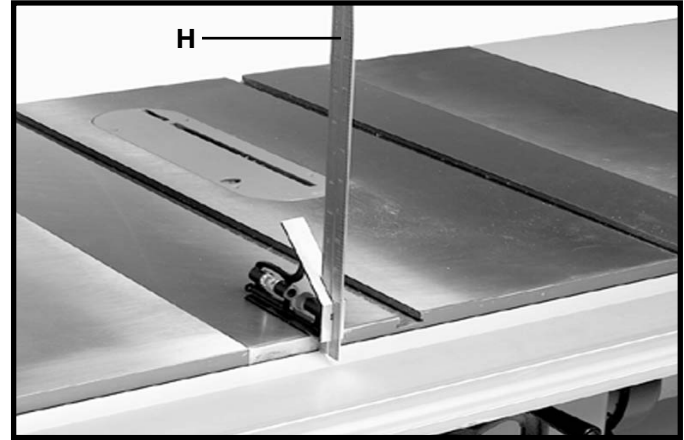

Fig. 77
7. Adjust the guide rail (C) Fig. 77, parallel with the saw table surface by placing a square (H) on the saw table at both the left and right front ends of the table, with the rule of the square against the flat surface on top of the guide rail. The guide rail (C) Fig. 77, can be adjusted up or down at either end. After you are certain the guide rail is parallel with the table surface, firmly tighten the two hex nuts that fasten the guide rail to the table.